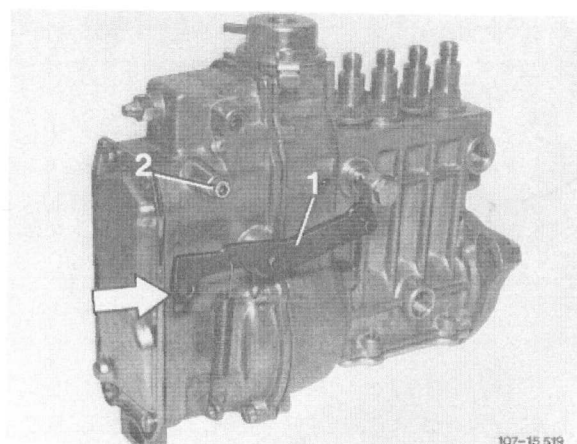

Fig. 196
3 Check whether regulating lever (1) of injection pump rests against idle speed stop inside injection pump (Fig. 196).
The control pressure rod is attached to bore (arrow) of regulating lever (1) on injection pump (Fig. 196).